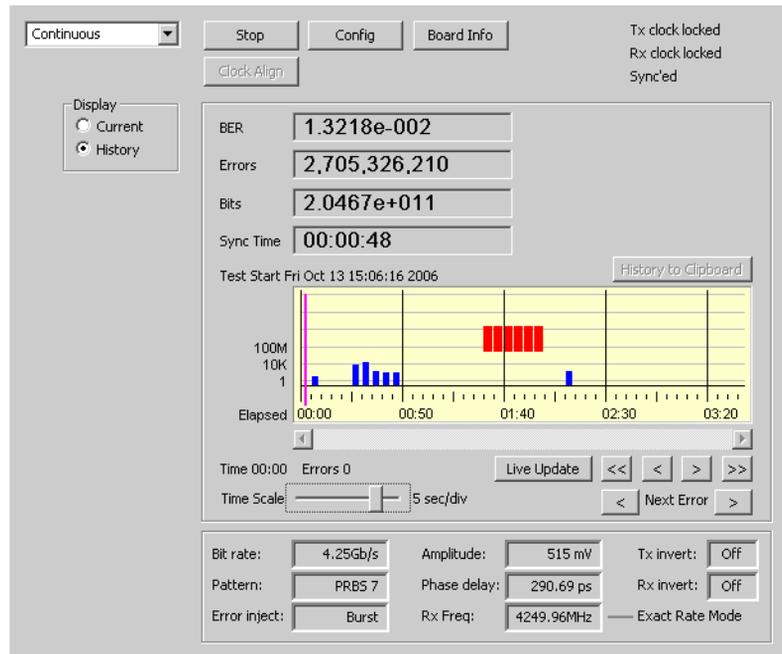

Figure 3-5. Historical Display of Bit Errors
- Select **History** to access a scrolling display of bit errors and out-of-sync conditions that is updated in real-time, as shown in Figure 3-5.